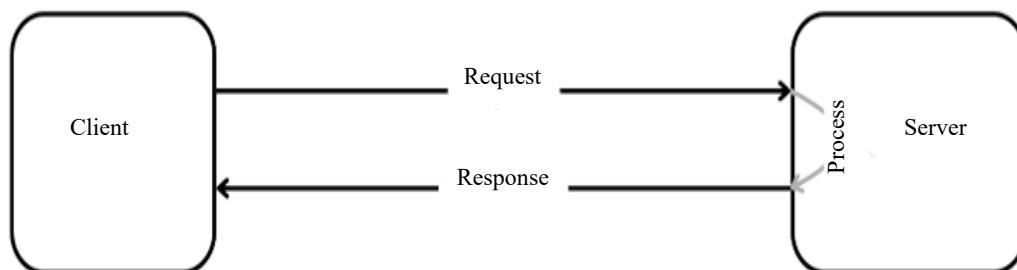

Figure 3. Services.
2. *Services*: Services are just the Client-Server Model, and they carry all the advantages and disadvantages of those here as well. This is good when some processing is needed before fulfilling the request (Figure 3).